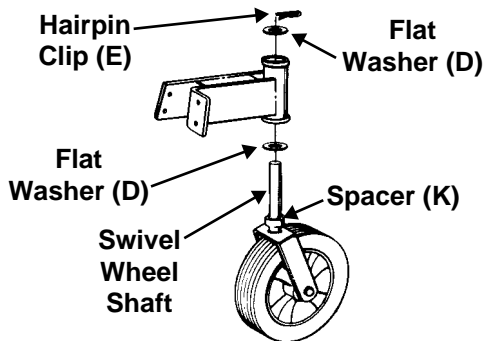

Figure 3
1. Place spacer (K), then one flat washer (D) over swivel wheel shaft. Place swivel wheel in position on tiller. See Figure 3. Next, place other flat washer (D) over swivel wheel shaft. Secure with hairpin clip (E). See Figure 3.